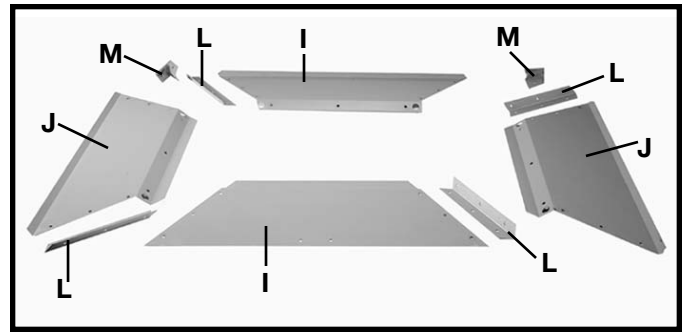

Fig. 10
1. Align the skew boards (I, J), skew board brackets (L), and the curtain frame plates (M), on a flat surface as shown in Fig. 10. **NOTE: SKEW BOARDS (I) SHOULD BE ATTACHED OPPOSITE OF EACH OTHER. SKEW BOARDS (I) ARE THE BOARDS WITH TWO HOLES DRILLED IN THEM FOR ATTACHING THE BOARD SUPPORT (FOR MODEL 50-885 ONLY).**